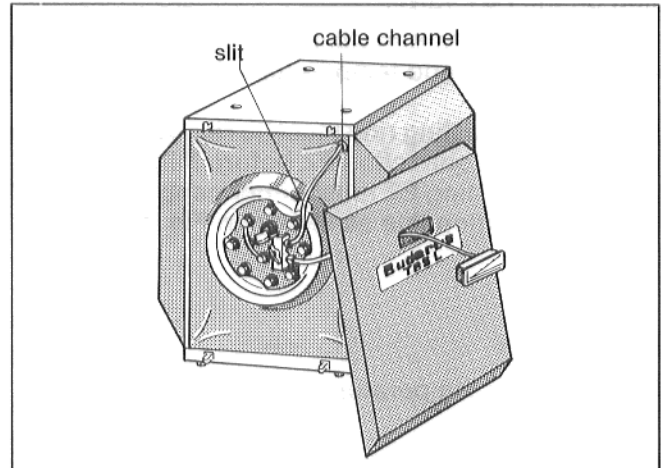

Fig. 7
- Pull the sensor out of the cable channel on the front of the storage tank and take it on to the sensor fastener on the inspection port lid (Fig. 7).
- Feed the sensor for the domestic hot water thermometer* (FB) from the front through the removable piece in the front of the jacket and insert the thermometer housing in the break-out piece (Fig. 7).
- Unroll the sensor cable and take it through the slit in the thermal insulation to the sensor fastener on the inspection port lid (Fig. 7).